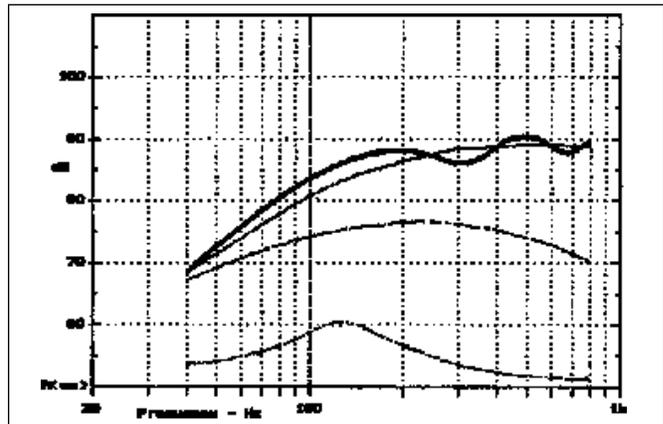
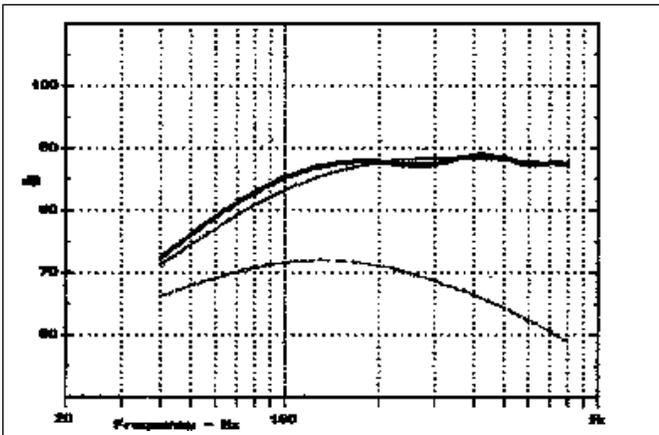
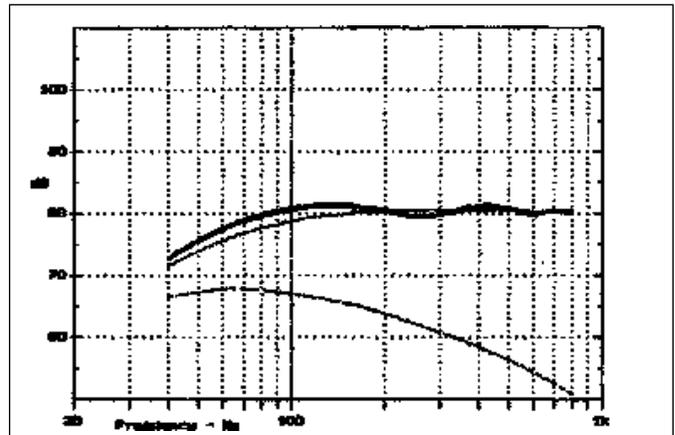

FIGURE 4B: Response of loudspeaker on straight pipe with moderate damping. Impedance, cone output, pipe output, and system response (bold).
FIGURE 5: Response of straight pipe with improved alignment. Cone output, pipe output, and system response (bold).
FIGURE 6: Response of straight pipe with alternate alignment. Cone output, pipe output, and system response (bold).
When you increase stuffing density to 1.5 lb/ft^3 , the result is a well-behaved transmission line. *Figure 4b* indicates nonresonant response with a 2dB sag at 300Hz and gentle rolloff below 200Hz.
menting with adjustments of individual parameters, I came up with the response of Fig. 5. Now, f_3 matches f_p , and f_5 is an octave lower.
2. In Fig. 5, pipe output and cone output add constructively down to 40Hz or so. It follows that it should be possible to set f_3 as much as an octave below f_p by adjusting loudspeaker parameters with no change in stuffing density. Figure 6 shows how a nominal 109Hz pipe can be "tuned" to 65Hz. Efficiency goes down as well, just as you would expect from analogous closed box alignments. For a given f_3 , there is some advantage in choosing a shorter, fatter pipe, because passband ripple shows up at higher frequencies where it is easier to control.
Table 2 summarizes the loudspeaker/pipe relationships of Figs. 5 and 6, which you can use as multipurpose alignments. To achieve the classic, slightly bass-shy alignment of Fig. 4b, simply reduce Q_{TS} by half, thus raising mid-range sensitivity by 3dB. To simulate an infinite pipe, increase stuffing density by about 50% and assume that f_3 will go up about 25%.